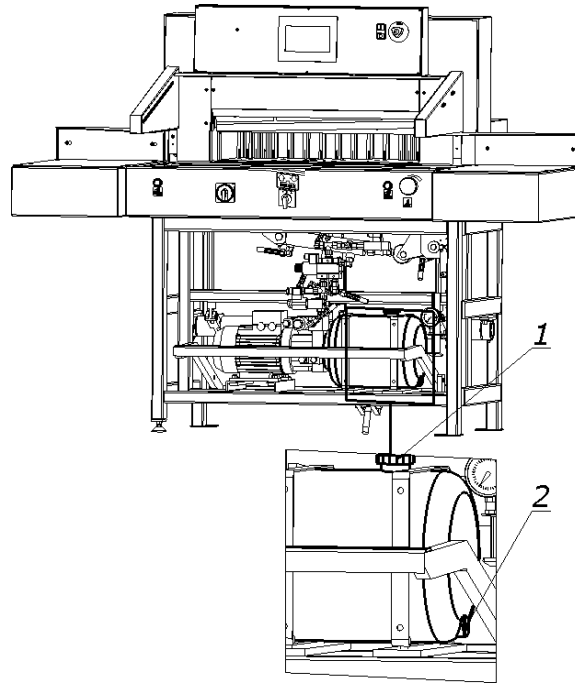

Figure 51. Oil change in the hydraulic system.
Fresh oil should be poured after first screwing in the drain plug (2) through the filling hole (1, fig. 51)